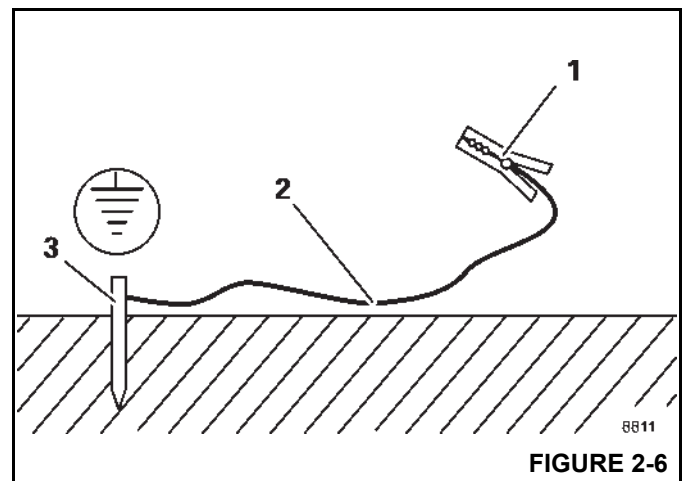

FIGURE 2-6
1. Hammer a metal rod (3, Figure 2-6) (length of approximately 2.0 m (6.6 ft)) at least 1.5 m (5 ft) into the ground.
2. Moisten the soil around the metal rod (3) for better conductivity.
3. Clamp an insulated cable (2) to the metal rod (3), cross-section of at least 16 mm² (0.025 inches²).
4. Connect the free end of the cable with a clamp (1) to a good electrically conductive location on the frame.